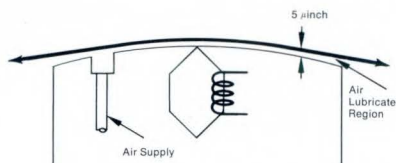

FIGURE 5. Noncontact Head
**NON-CONTACT HEADS.** Some wear will always occur when two surfaces are in contact. One way of eliminating this contact and wear is to purposely introduce lubricating air between the head and the tape. Heads, where this is done with externally pressurized air, have been fabricated and are shown schematically in Figure 5.
With the configuration shown in Figure 5, it has been possible to provide separations of as little as 5 microinches between head and tape with no measurable wear. Such separations are intolerable for extremely short wavelengths. However, with more efficient head design and higher output tapes possibly available in the future, such separations may be tolerable and still result in an acceptable signal-to-noise ratio. In other applications where the long wearing characteristics of such a head are of prime importance, such an approach may be ideally suited.